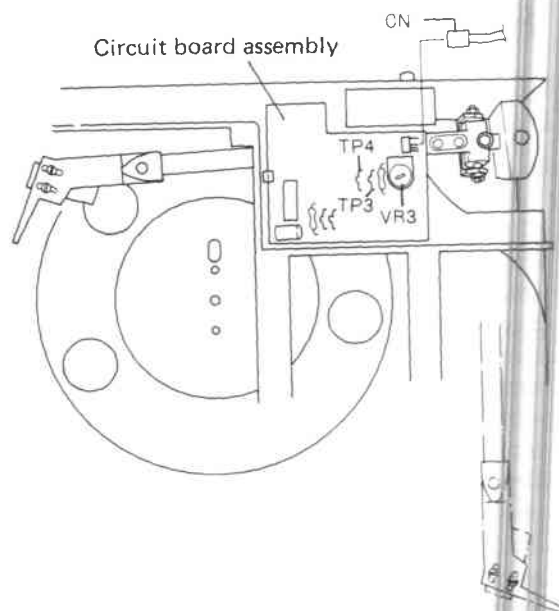

Fig. 12-3 End sensor adjustment 1
2. With the unit in playback status, turn off the power switch. Then, disconnect the connector (CN) from the circuit board assembly to make sure the mechanism motor and turntable motor does not move.
3. Connect a DC voltage meter between TP3 and TP4 (GND) as shown in Fig. 12-3 Turn the power switch on, and position the stylus of the tonearm 47.5mm from the center shaft. Read the voltage from the voltage meter at this position. (Fig. 12-4).